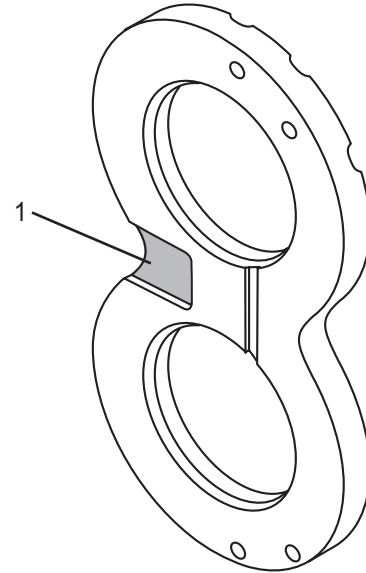

Figure 27
- Make sure the channel seal is properly seated in the groove with the flat side of the seal facing away from the thrust plate. The high pressure relief groove (Figure 27, Item 1) in the plate must face the outlet side of the pump.